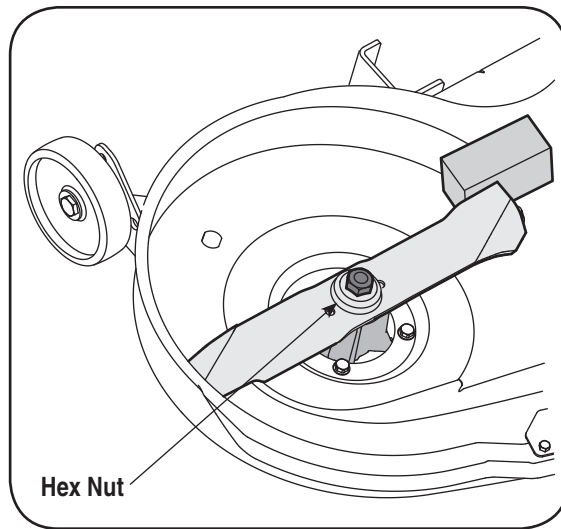

Figure 18
2. Place a block of wood between the center deck housing baffle and the cutting blade to act as a stabilizer. See Figure 18.
3. Use a 15/16" wrench to remove the hex flange nut that secures the blade to the spindle assembly. See Figure 18.